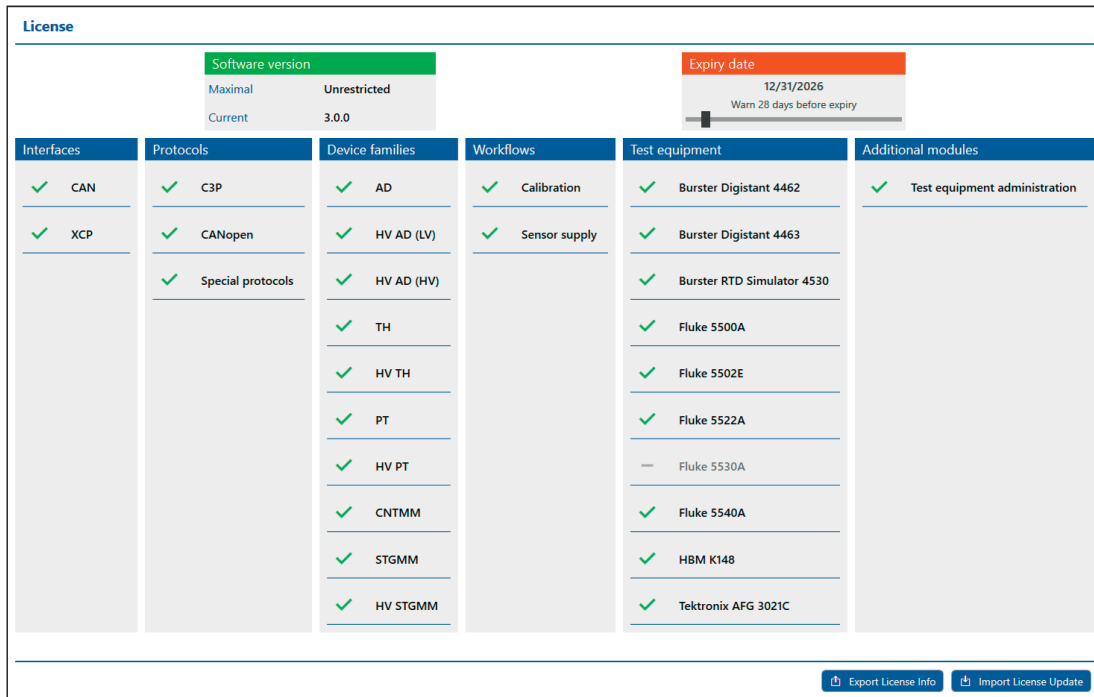

Fig. 3-38: License menu
The slider in the info box **Expiry date** (Fig. 3-38, ①) can be used to set the time span in days until the software license expires. At the beginning of the specified time span, a warning message appears after the program start indicating the license expiry date.